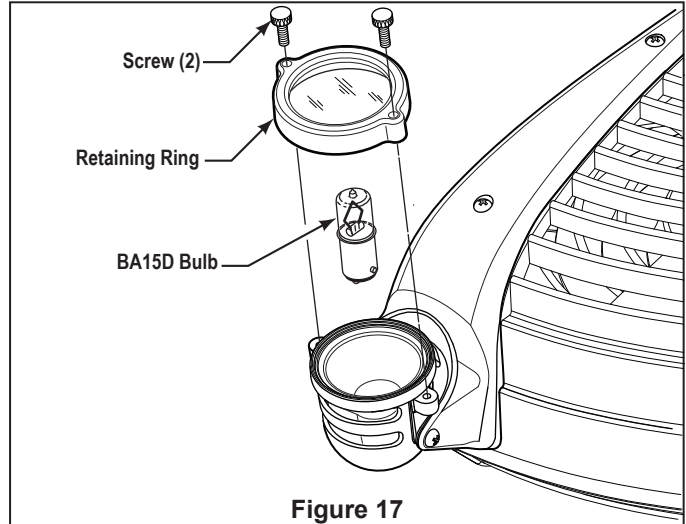

Figure 17
3. Remove the burned-out bulb(s). By gently pressing down on the bulb, twisting counter-clockwise and pulling out the bulb (Figure 17).